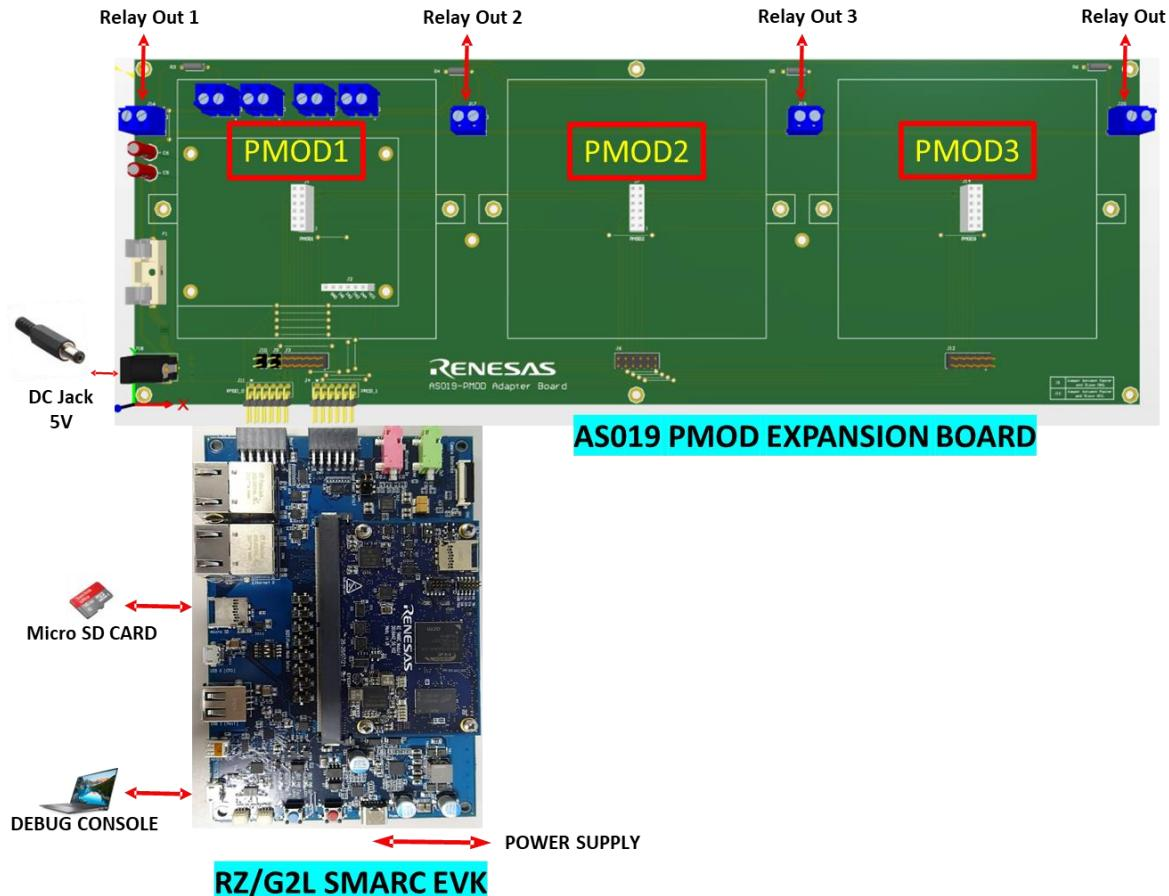

Figure 2. AS019PMODEXP-POCZ Connections with RZ/G2L
2. Connect micro-SD Card to the slot present in carrier board connection (Figure 2.)
3. Connect debug console to serial terminal application software (Figure 2.)